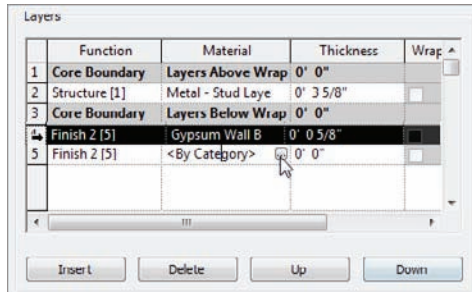

FIGURE 9.19 Clicking the [...] button in the Material cell
7. In the **Layers** field, as shown in Figure 9.19, click on row 4. This is the **Finish 2 [5] Gypsum Wall Board** row.
11. Click in the Material cell and click the [...] button, as shown in Figure 9.19.